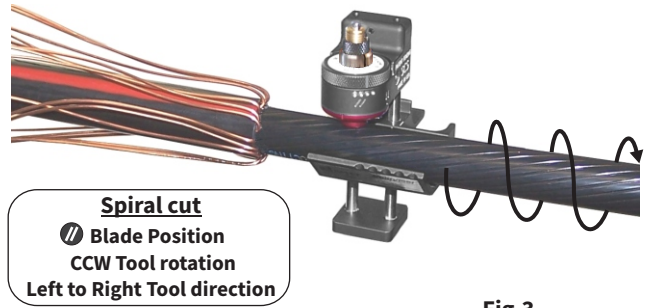

Fig.3
3. Spiral cut: (Fig.3) With the tool still in place on the cable, turn the blade positioning knob to one of the spiral cut locations. The ● symbols represent relative semi-con diameters, and assist in setting the best tool pitch for various cable sizes. The tool pitch is most aggressive at the smallest ●. Turn the tool counter clockwise and allow it to advance toward the end of the cable, and completely off the cable. Note: If preferred, the tool may be operated from the end of the cable and advanced inward. Reverse the operating instructions above, advancing the tool with clockwise rotation.